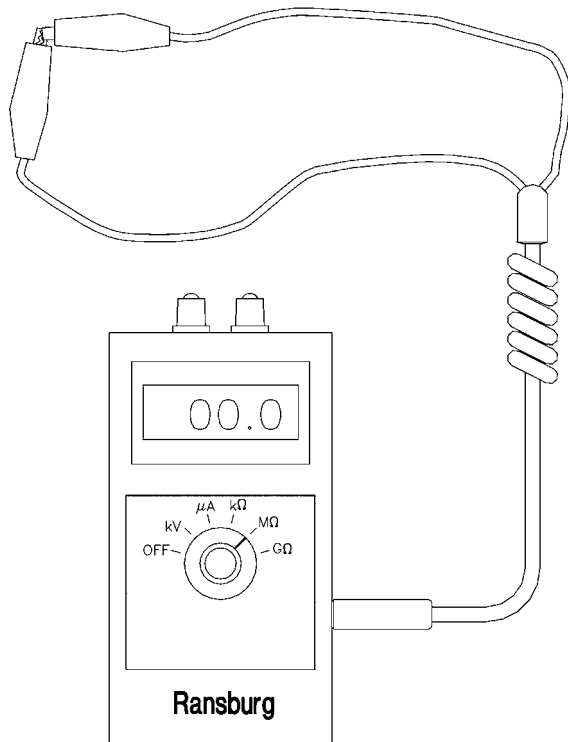

Figure 3: Calibration Check Resistance
1. Set the meter dial to the MΩ scale (see Figure 3). Plug the probe with two (2) alligator clamp leads into the side of the meter. Check the meter calibration by touching the metallic ends of the two (2) probes together. If the meter reads zero, the meter is in calibration. If it does not read zero, verify the continuity of the probe assembly and re-perform the check. If the meter still does not read zero, consult the factory for repair of the meter.